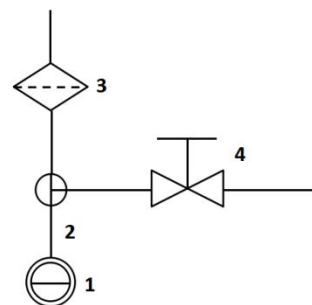

Figure 18
7.2.3 The equipment has been equipped with sampling points for input water. The sampling ports are shown in Figure 18: